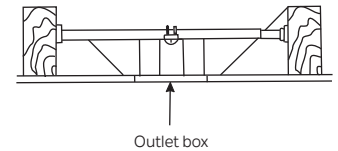

Fig. 4
**NOTE:** Depending on the location you have selected for installation, you may need to purchase and install a joist hanger for the support of the outlet box. Make sure the joist hanger you purchase has been designed for use with ceiling fans. (Fig. 4)